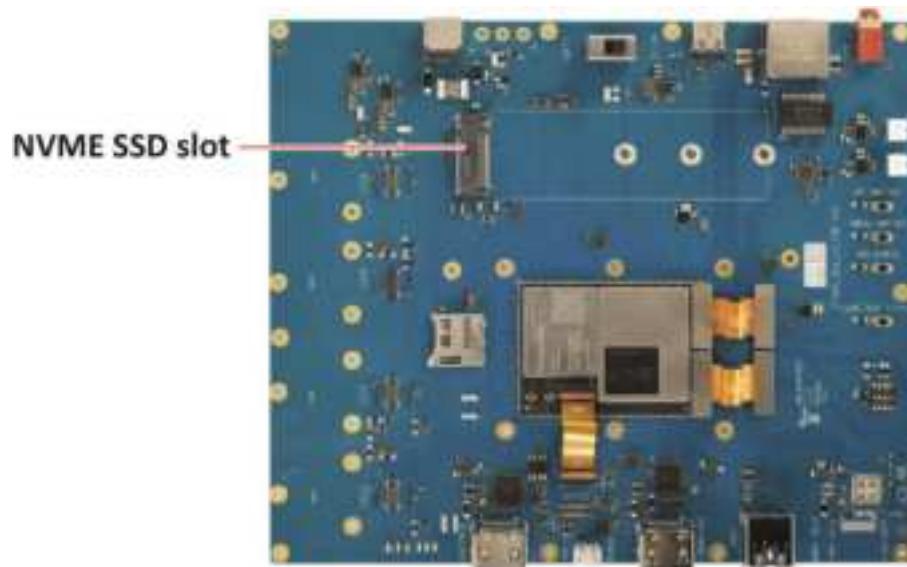

Figure 3-6. NVME SSD Connection
Step 1. Insert NVME SSD to the drive slot on DK board. Refer to Figure 3-6.